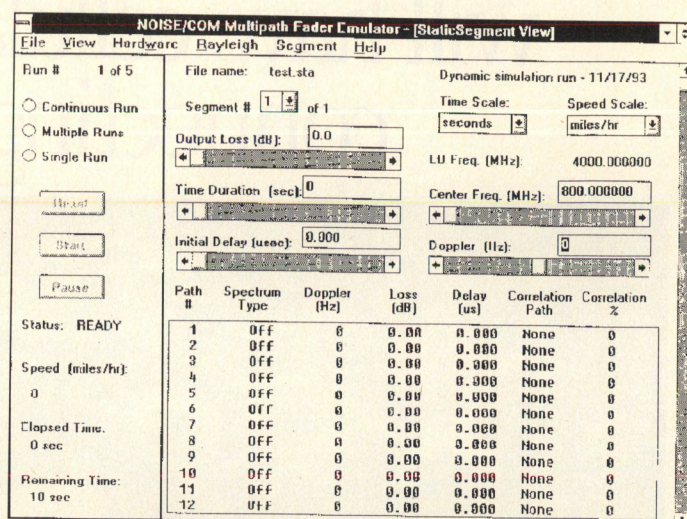

Figure 3. Display for dynamic mode emulation of fading from a mobile car telephone.
2) **DYNAMIC (GRAPHIC) MODE** — The user enters the initial and final parameters for a dynamic scenario. For example, a mobile phone starts at rest, then accelerates to 96 km/h (60 Mph) over a 5 minute period. The user inputs the scenario including the reflecting objects on a graphic display, see Figure 3. Software calculates intermediate states for Doppler, delay and attenuation.